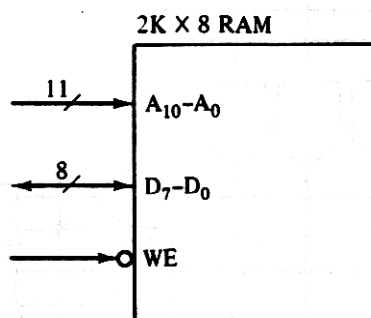

Figure 6.39 $2K \times 8$ RAM module for Problem 6.19.
- 6.19. Realize the $2K \times 8$ RAM module of Fig. 6.39 by using four $1K \times 4$ RAMs, as shown in Fig. 6.23, and an inverter.